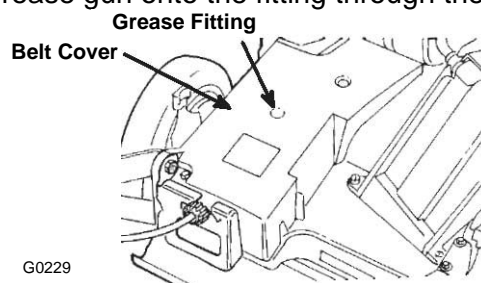

Figure 31
2. Install a grease gun onto the fitting through the belt cover opening (Fig. 31)